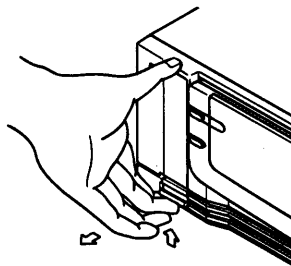

Fig. 1
- ▶ Step 1 Remove a slot cover. (See Fig.1)